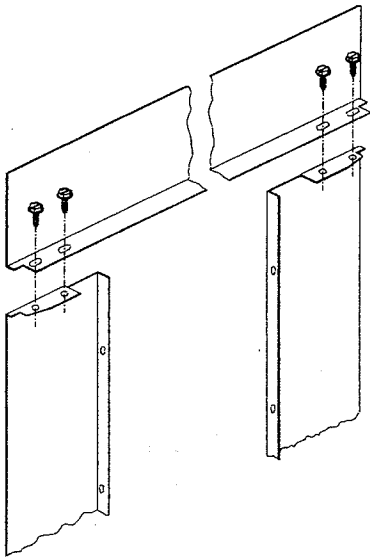

Figure 14
2. Line up the holes of the side and top panels and install the four screws loosely (see Figure 14).